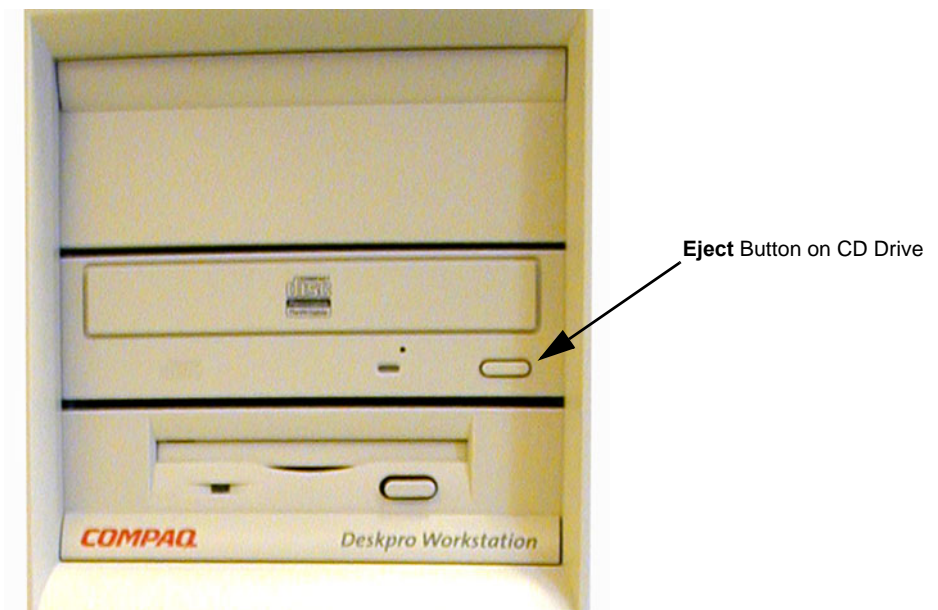

Figure 8-206 Eject Button on CD Drive.
- 6.) Press the **Eject** button on the CD drive, see Figure 8-206 "Eject Button on CD Drive." on page 8-179, and remove the CD.